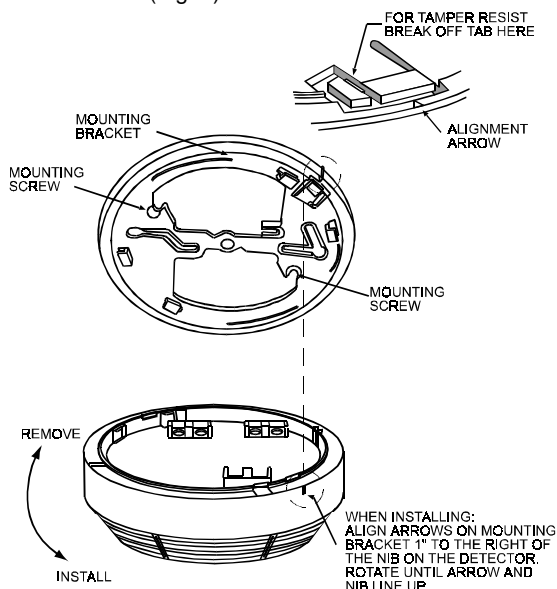

Figure 7: Installation
- Turn the alarm over and remove the mounting bracket by turning it counterclockwise. Hold the bracket against the ceiling (or wall) with a pencil, trace around the inside of the two screw slots (Fig. 7).
The alarm mounting may be made tamper-resistant by breaking off the plastic tab as shown in the Figure 7. To release an alarm mounted in this way, push-up on the locking tab with a small screwdriver while turning the alarm counter-clockwise.